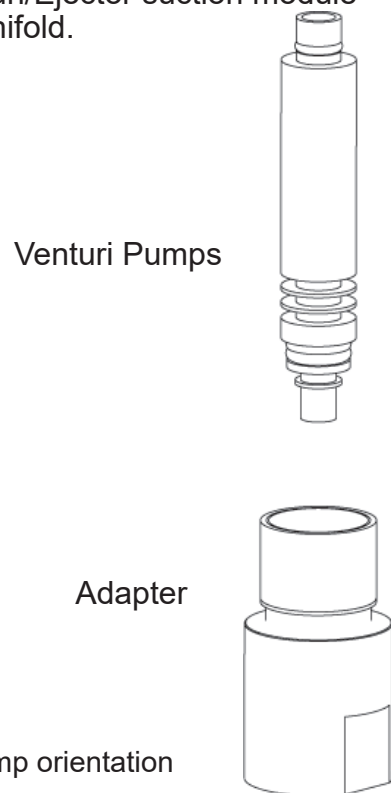

Figure 6-3
2. Place the Venturi/Ejector suction module pump into the interface adapter (see Figure 6-3 for orientation) and tighten the interface adapter with Venturi/Ejector suction module pump into the manifold.